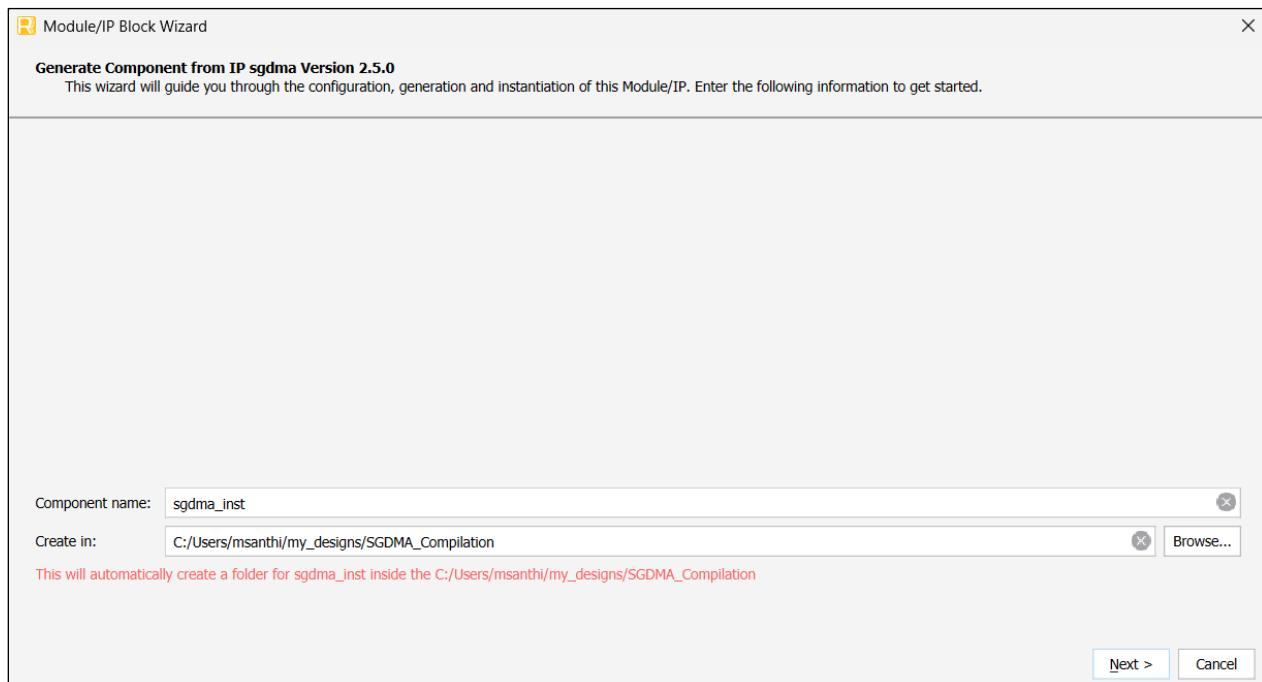

Figure 7.1. Module/IP Block Wizard
2. In the **IP Catalog** tab, double-click **SGDMA Controller** under the **IP, Processors_Controllers_and_Peripherals** category. The **Module/IP Block Wizard** opens as shown in Figure 7.1. Enter values in the **Component name** and the **Create in** fields and click **Next**.
5. Click **Finish**. All the generated files are placed under the directory paths in the **Create in** and the **Component name** fields shown in Figure 7.1.